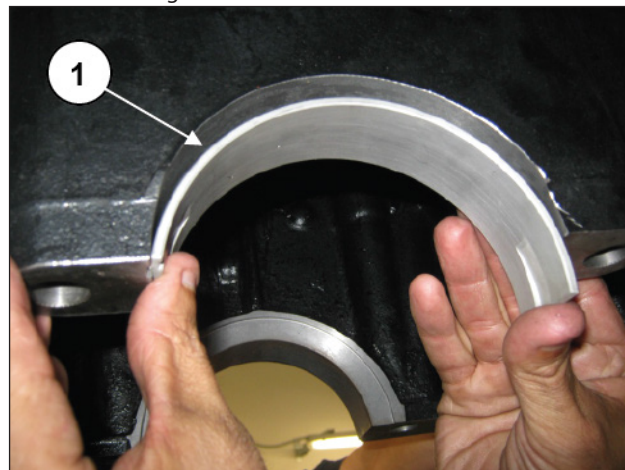

Fig. 108
Install the main bearing shells (pos. ①, Fig. 108) in their seats in the rear casing.